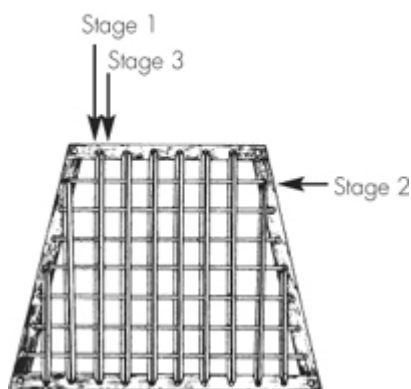

fig. 4
12. Stage 3 repeats Stage 1. It is worked on top of Stage 2. As you work, try to move the cane from Stage 1 slightly to the left so that the cane in this stage will lie just next to it on the right and not on top of it. This places the cane in the proper position for Stage 4. See Figure 4.